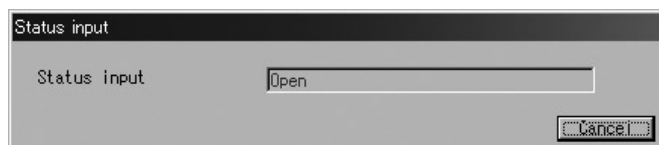

Fig.92
- ① Click on "Diag/Service (T)" at top-level menu of the screen, select "Status input" from the "Loop test" drop-down list, and click on again.
- ② A message box like the one shown in Fig. 92 appears, indicating the current status of status input either "Short" or "Open". On acknowledging the status, click on "Cancel" button to hide the Status input message box.